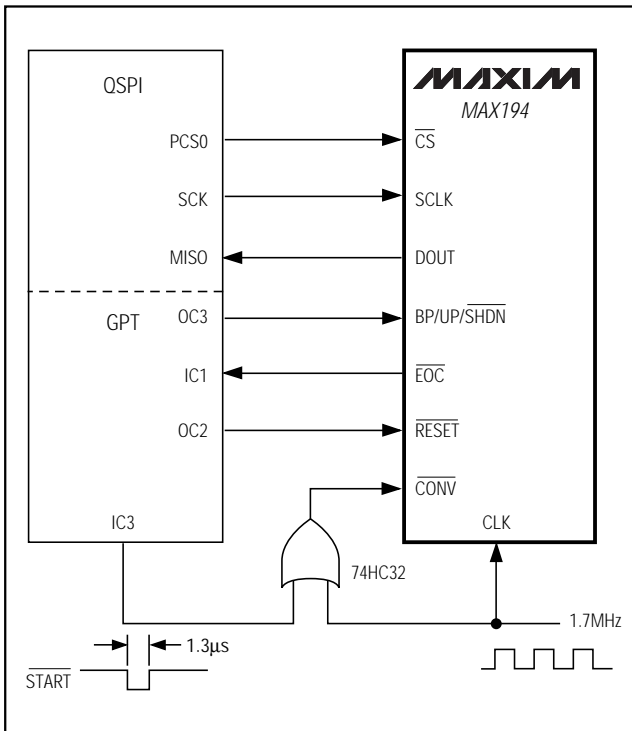
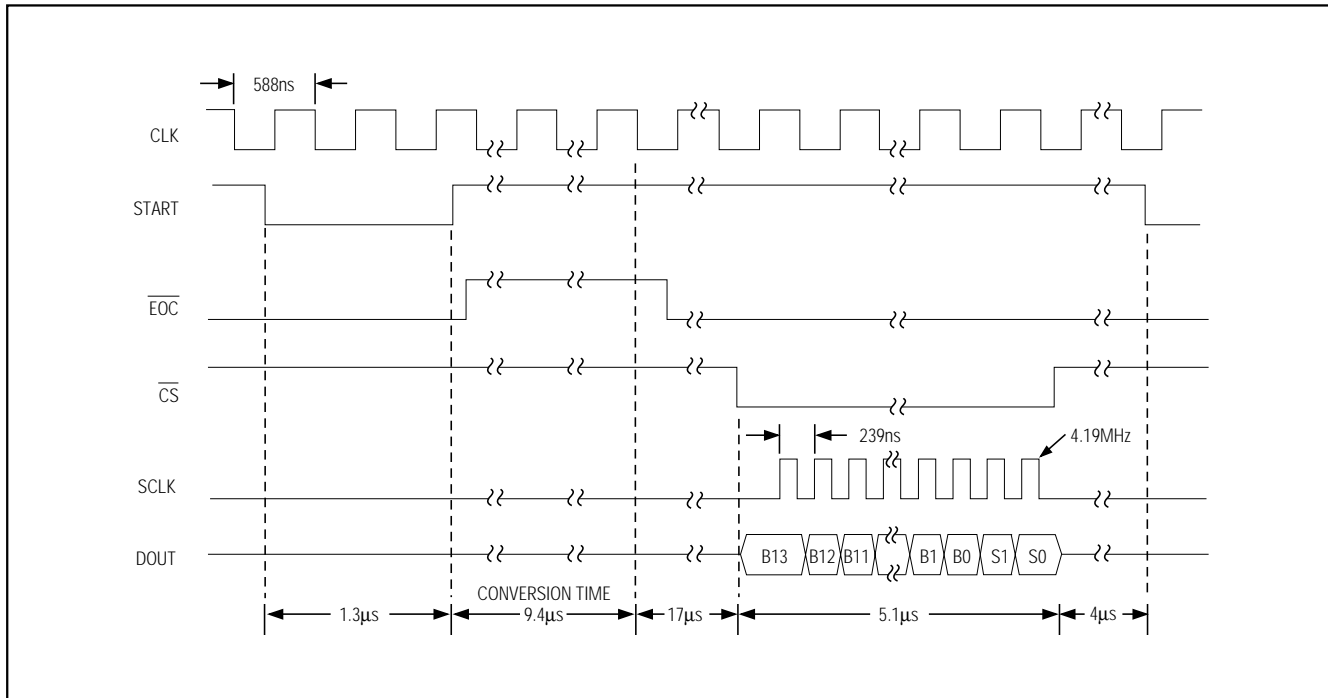

Figure 19. MAX194 Connection to QSPI Processor Clocking Data Out with SCLK Between Conversions
Figure 20. Timing Diagram for Circuit of Figure 19
This mode uses a conversion clock (CLK) and a serial clock (SCLK). The serial data is clocked out between conversions, which reduces the maximum throughput for high CLK rates, but may be more convenient for some applications. Figure 19 is a block diagram with a QSPI processor (Motorola 68HC16) connected to the MAX194. Figure 20 shows the associated timing diagram. Figure 21 gives an assembly language listing for this arrangement.
* MAX194 code listing for 68HC16 module and circuit of Figure 19      *
* (C) 1994 Maxim Integrated Products                                  *